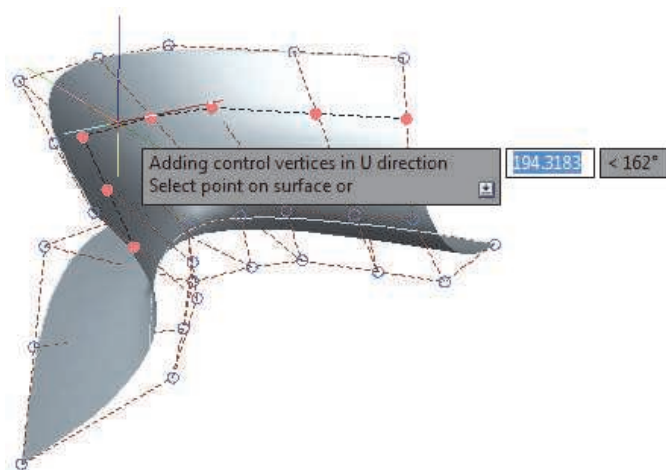

Figure 4–39
3. Select a point on the surface to add the control vertex in the U-direction, as shown in Figure 4–39.